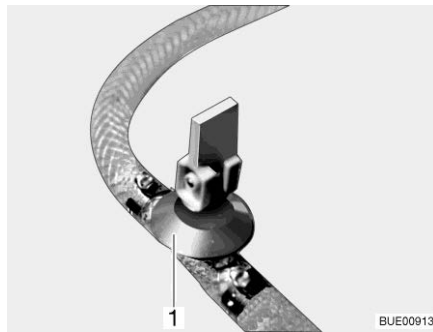

Fig. 196 Drain cock (with rocking lever)
- Open all drain cocks. In order to do this, position the rocking lever of the drain cock (Fig. 196,1) vertically.